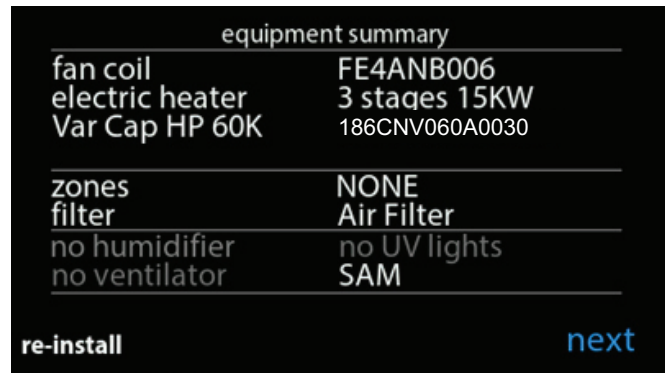

Fig. 9 – Equipment Summary Screen
1. After system is evacuated, close the disconnects to energize indoor unit, outdoor unit, and User Interface (UI). Do not attempt to operate the system in heating or cooling mode at this time. Mode: OFF. Vapor and liquid line service valves should be fully closed.
3. If the user interface is new then the UI will proceed through a series of setup screens. Proceed through these setup screens until the equipment summary screen is reached (see Fig. 9). Verify that the correct equipment is shown on this screen. If the installed indoor unit is a furnace coil verify that this has been selected. The UI will then proceed through an airflow verification test and then return to the main screen.